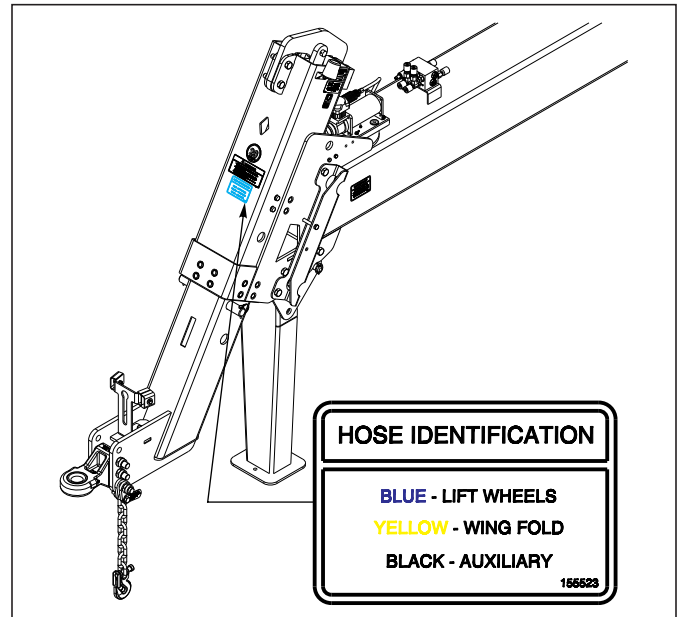

Figure 4-36: Hose Decal
1. The hydraulic hoses are color coded to help identify and match the attaching hoses on the Grain Drill. An identification decal is placed on the front of the hitch to help identify the hoses (See Figure 4-36.)